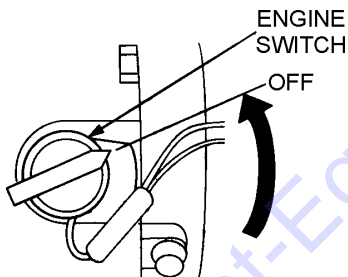

Figure 47. Engine ON/OFF Switch
2. After the engine cools, turn the engine start/stop switch to the "OFF" position (Figure 47).